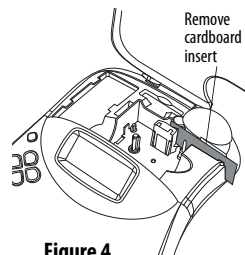

Figure 4
- 1 **i** *The first time you use the label maker, remove the protective cardboard insert from the label exit slot. See Figure 4.*